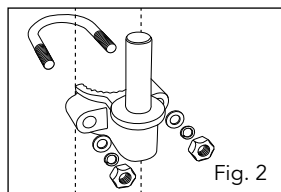

Fig. 2
1. Attach pipe collar (9) (with large hinge pin (5)) to the steel bar using a U-bolt (6), washers (4), spring washers (3) and two hex nuts (2) (Fig. 2).